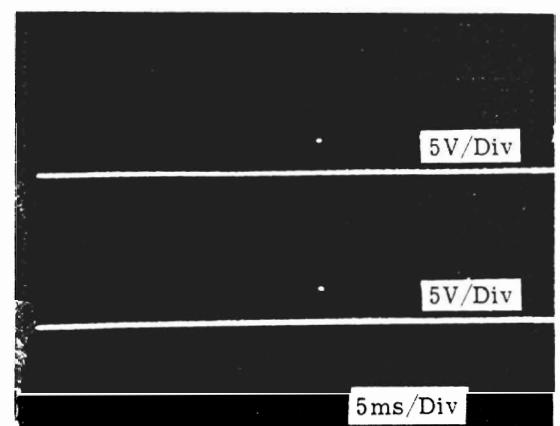

Figure 5-12. D1 and D2 Pulse
- 6) If the D1 and D2 pulses appear as shown in Figure 5-12, check Cs(00000), Gs(00000) signal and Null Detector.